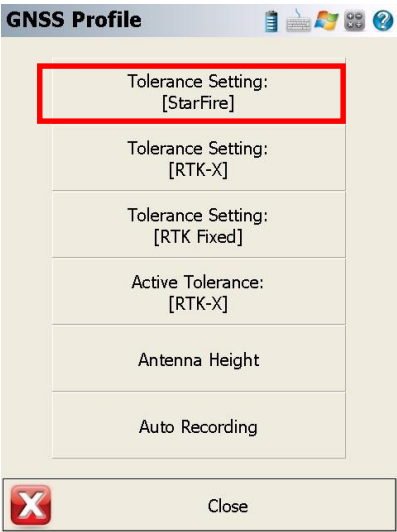

Figure 53: GNSS Profile/Tolerance Setting [StarFire]
4. **On the GNSS Profile** dialog box (refer to Figure 53), select **Tolerance Setting [StarFire]**.
4. On the **GNSS Profile** dialog box (refer to Figure 53), select **Tolerance Setting [RTK-X]**.